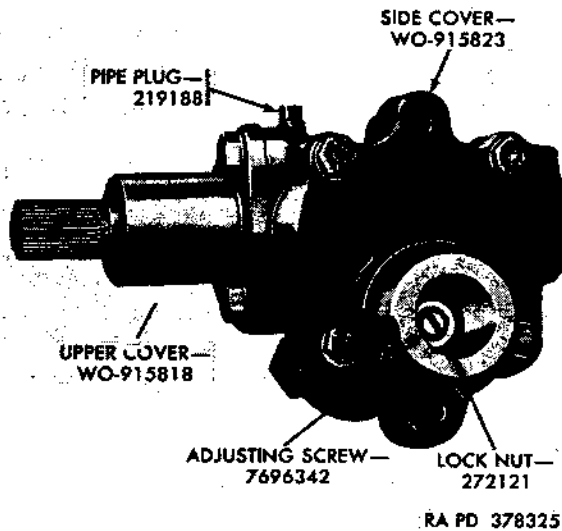

Figure 3. Steering gear side cover.
Remove the pipe plug (fig. 3) from the steering gear housing and allow lubricant to drain.
a. *Remove Side Cover* (fig. 3). Remove the four cap screws and washers securing the side cover to the steering gear housing and remove cover. Remove the locknut and adjusting screw from the cover. Remove and discard the gasket.
a. *Remove Upper Cover* (fig. 3). Remove the three screws and washers securing the upper cover to the steering gear housing, and remove cover.
c. Rotate the steering wheel with a torque indicating wrench. Read torque wrench while wrench is in motion. Use a screwdriver to adjust the adjusting screw (fig. 3) until the pull at the center position is 5 to 9 pound-inches torque. After adjustment, tighten the locknut securing the screw.